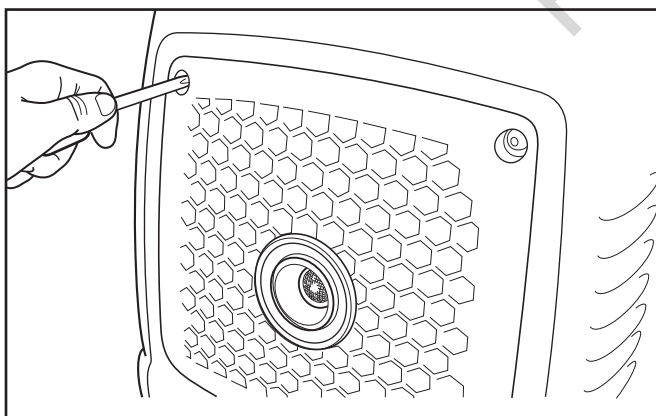

Figure 11
1. To remove muffler guard, remove four screws that connects guard to generator (Figure 11).